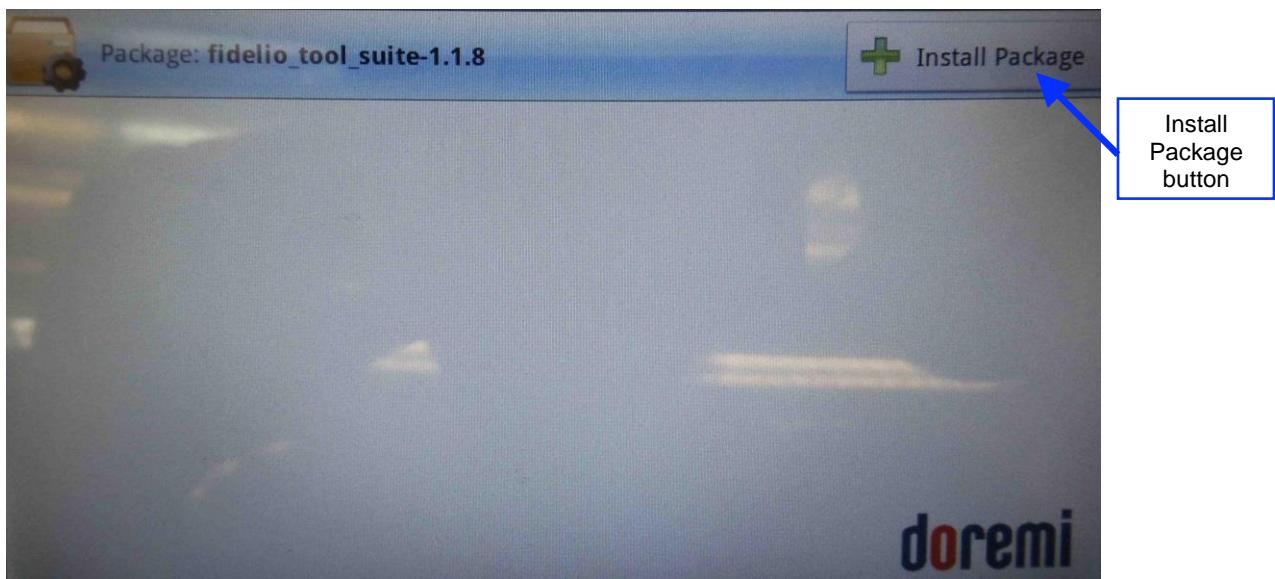

Figure 73: Install Package
- Install package **fidelio_tool_suite-x.x.x** (Figure 73). Click on the Install Package button to install the latest software package (Figure 73). Wait a few seconds for the package to install.